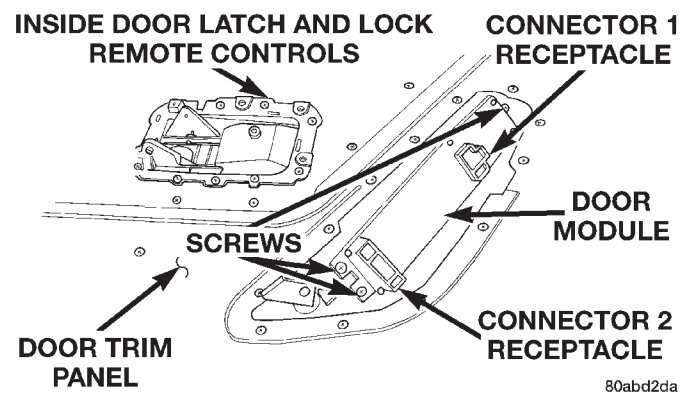

Fig. 6 Door Module Remove/Install
(4) Lift the front door trim panel upwards and away from the inner door panel far enough to disengage the top of the panel from the inner belt weatherstrip.
(5) Pull the front door trim panel away from the inner door panel far enough to access the inside door latch release and lock linkage rods near the back of the inside door remote controls.
(6) Unsnap the plastic retainer clips from the inside door remote control ends of the latch release and lock linkage rods, and remove the rod ends from the inside door remote controls.
(7) Unplug the wire harness connectors from the door module.
(8) Remove the trim panel from the front door.
(9) Remove the three screws that secure the door module to the front door trim panel (Fig. 6).